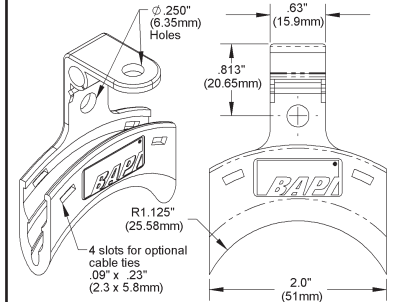

Fig. 12: Flexible Probe Bracket for mounting averaging sensors (Part #: BA/FPB)
2. Insert the probe by unrolling the sensor into the duct carefully to avoid kinking the sensor. Serpentine the duct with the sensor at least twice across the stratified air in the duct to achieve the best average temperature reading. At the sensor reversing points, a BAPI Flexible Probe Bracket (Fig 12) can be used to support the sensor and to avoid kinking the sensor.
3. Mount the enclosure to the duct using BAPI recommended #8 screws through a minimum of two opposing mounting tabs provided. Weatherproof (WP) enclosures will require assembly of the mounting tabs on opposite corners. A 1/8 inch pilot screw hole in the duct makes mounting easier through the mounting tabs. Use the enclosure tabs to mark the pilot hole locations.
The BAPI Flexible Probe Bracket (Fig. 12) is used to mount averaging sensors. It makes a smooth arc at direction changes to eliminate the risk of kinking.